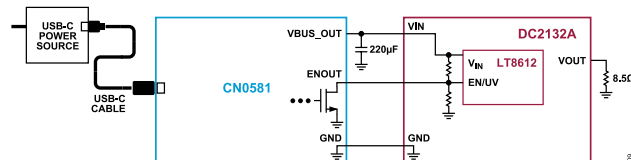

Figure 7. CN0581 Test Setup with DC2132A Bench Supply
7. The complete setup should look like the block diagram shown in Figure 7.